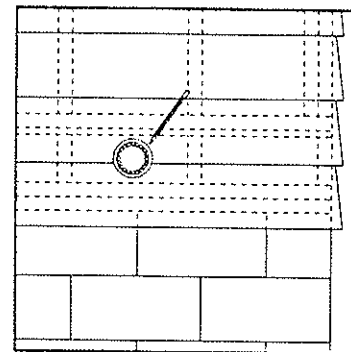

Figure 5
8. Center a five inch starting collar around the nail hole and trace the outside of the starting collar. **Fig. 5**